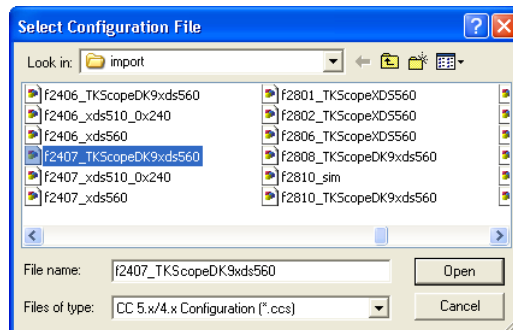

Figure 3.4 Select configuration file
4. System will automatically open the CCS3.3 installation directory “import” folder, users choose appropriate option based on their use. (This example uses TKScope DK9 simulation of TMS320LF2407 chip, as show in Figure 3.4).